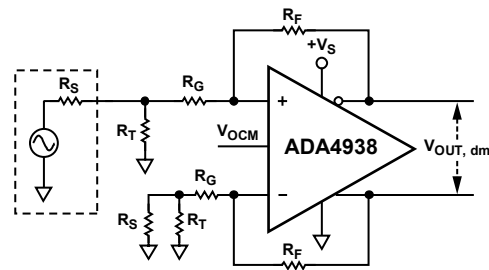

Figure 59. ADA4938 Configured for Unbalanced (Single-Ended) Input
For an unbalanced, single-ended input signal (see Figure 59), the input impedance is
**Table 11. Single-Ended Ground-Referenced Input, DC-Coupled,  $R_S = 50$   $\Omega$ ; See Figure 59**